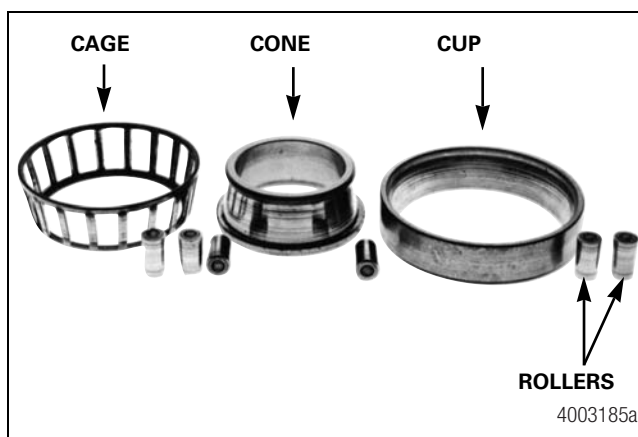

Figure 4.12
F. The cage, cup, cone or rollers are grooved. Figure 4.12.